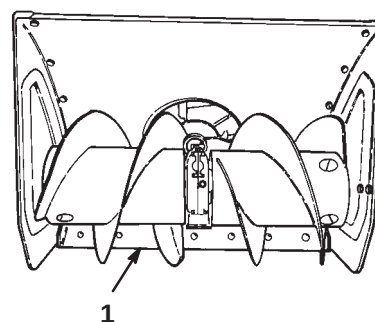

Figure 9
2. Move the snowthrower to a flat surface and ensure that the scraper (Fig. 9) is parallel to the ground. If it is not, adjust the scraper; refer to Adjusting the Skids and the Scraper on page 19.